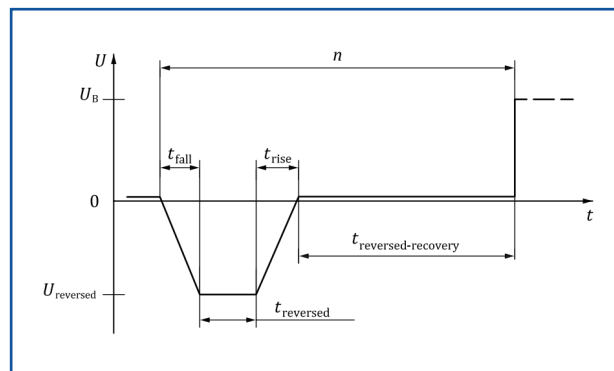

Figure 17 — Reversed voltage test case 2
4.7.2.3 Test case 2: ■ In all other cases, apply the test voltage $U_{reversed}$ (see Figure 17 and Table 16) simultaneously to all relevant inputs (connections) of the DUT for a duration of (60 ± 6) s.